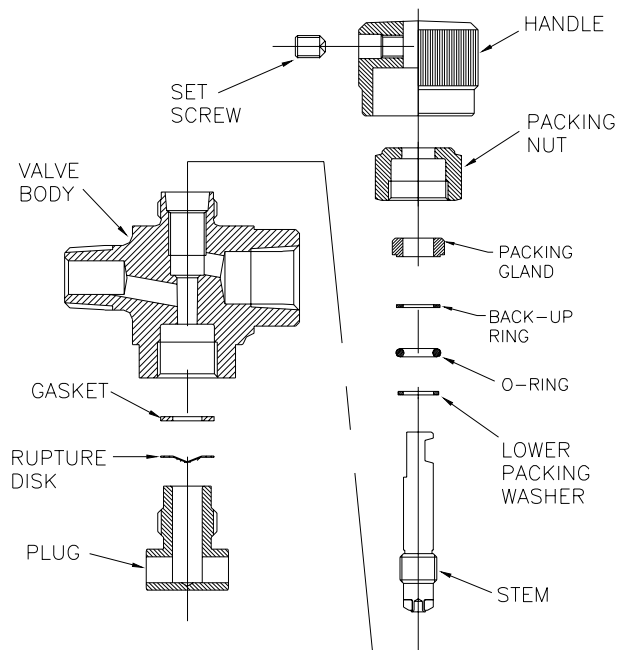

Figure 3: RVCK Series Valve w/
15. The next two steps only apply to Valves with an O-Ring Stem packing. Proceed to step 17 for Valves with the standard PTFE stem packing configuration. Refer to Figure 3. Apply a small amount of lubricant, as consistent with the valve’s service requirements, to the new O-Ring.
16. Refer to Figure 3. Stack the four packing components on the Stem in the following order, with the first item being placed directly above the Stem threads. Then proceed to Step 18.